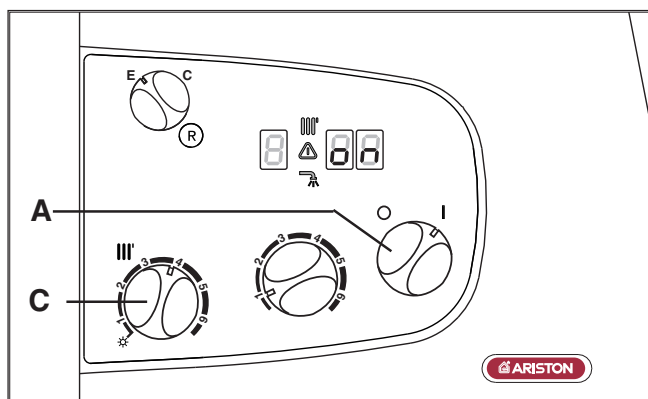

FIG. 3.2
- Supply power to the boiler by turning the On/Off knob "A" (see FIG. 3.2) - on the display will appear "on". Turn the knob "C" to maximum and switch the time clock to constant.